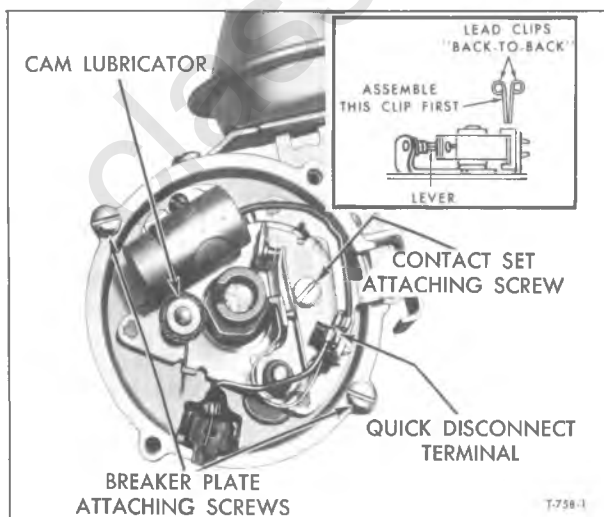

Figure 6—Breaker Plate and Attaching Parts
3. Pull primary and condenser lead wires from contact point quick-disconnect terminal (fig. 6).
2. Connect primary lead and condenser lead to terminals (fig. 6). Lead clips must be assembled "back-to-back." Push clip nearest the contact lever down between the spring and locator; then push the remaining clip down between the first clip and locator. Do not push on the spring.